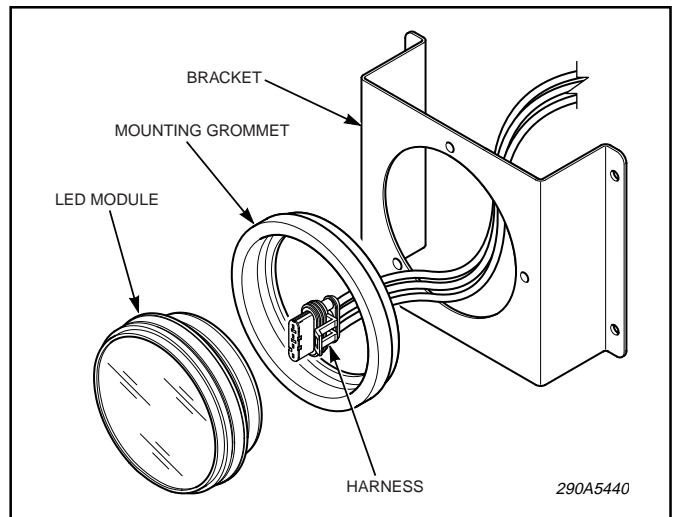

Figure 2.
K. See figure 2. Orient the LED Module with the lettering upright and push it into the gasket until seated. Apply pressure to the top and bottom alternately. A firm, steady pressure is needed.